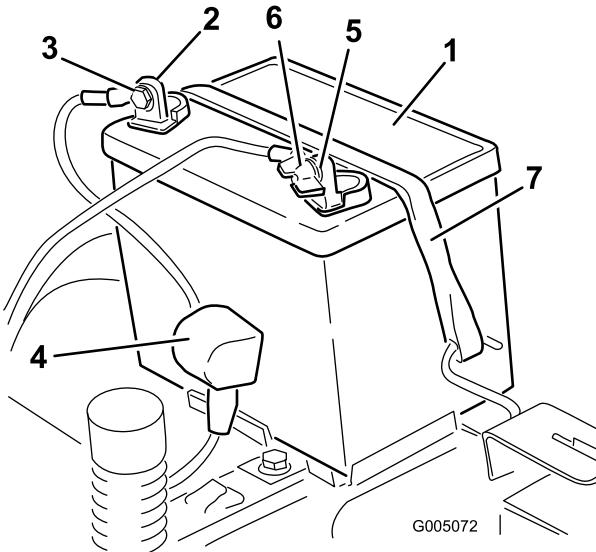

Figure 35
4. Disconnect the negative (black) ground cable from the battery post (Figure 35). Retain all fasteners.
5. Slide the rubber cover up the positive (red) cable. Disconnect the positive (red) cable from the battery post (Figure 35). Retain all fasteners.
6. Remove the battery hold-down (Figure 35) and lift the battery from the battery tray.
1. Position the battery in the tray (Figure 35).
5. Secure the battery with the hold-down (Figure 35).